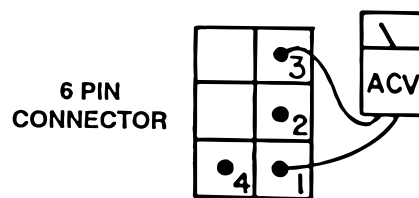

Figure 5-3. Back View Connector B'
3. Use an AC voltmeter capable of measuring 120 VAC and measure the voltage between pins 1 and 3 (black and white wires) located in connector B'. See figure 5-3. You should receive line voltage 120 VAC.